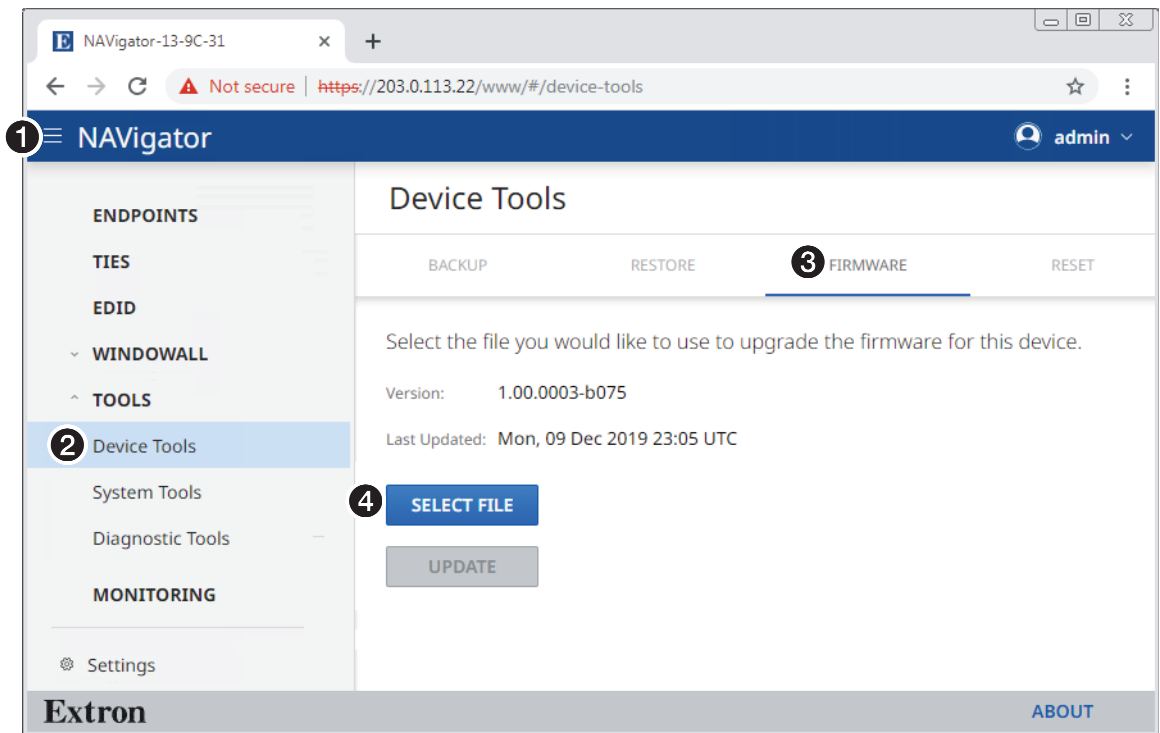

Figure 75. Device Firmware Upload Page
1. Access the HTML embedded HTML pages (see Opening the Embedded HTML Pages on page 10). The HTML page opens (see figure 75).
2. If necessary, click the **Menu** icon (see figure 75, ①).